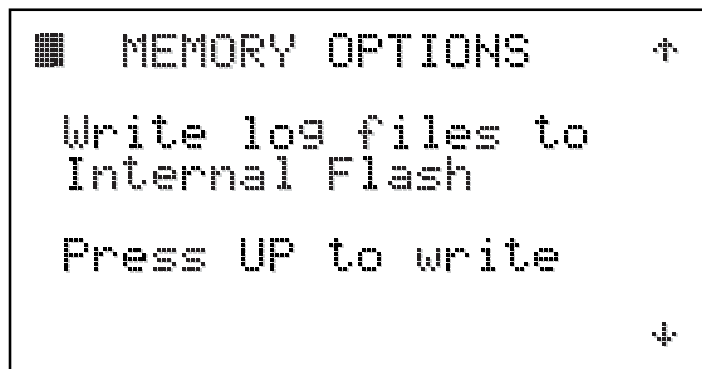

Figure 63
4.3.4.6 Memory Options (Figures 63 - 65)